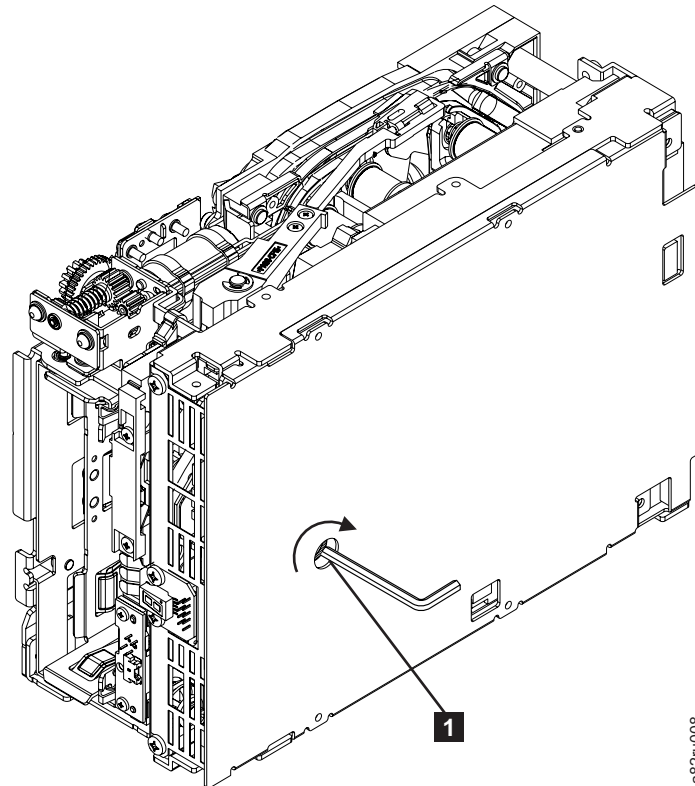

Figure 8-75. Using hex wrench to rewind tape into cartridge
Note: Be sure to keep tension on the tape as the LBA is drawn into the cartridge by using a hex wrench (1) in Figure 8-75.